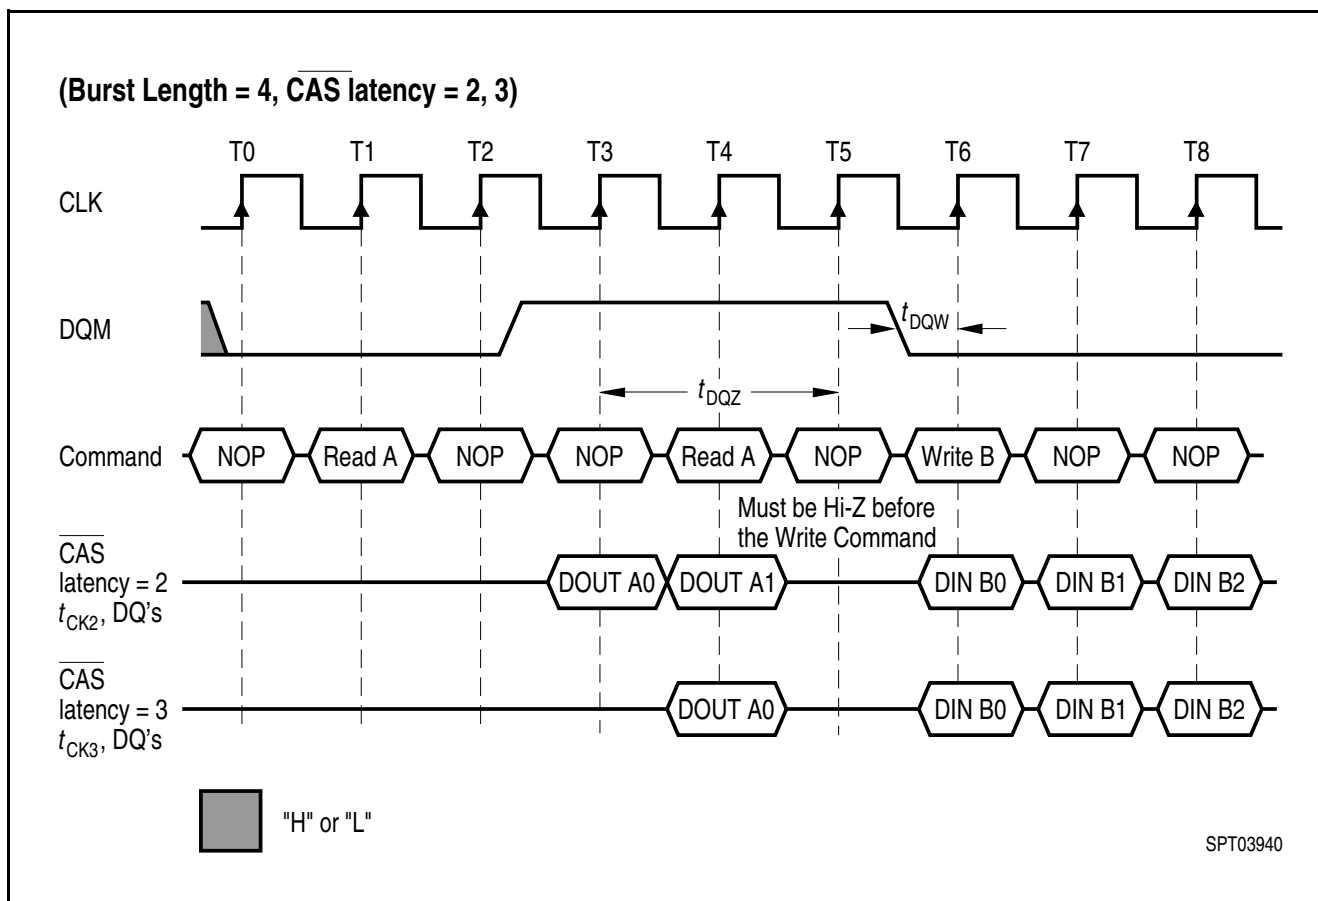

Figure 10 Non-Minimum Read to Write Interval
- **Figure 10** Non-Minimum Read to Write Interval